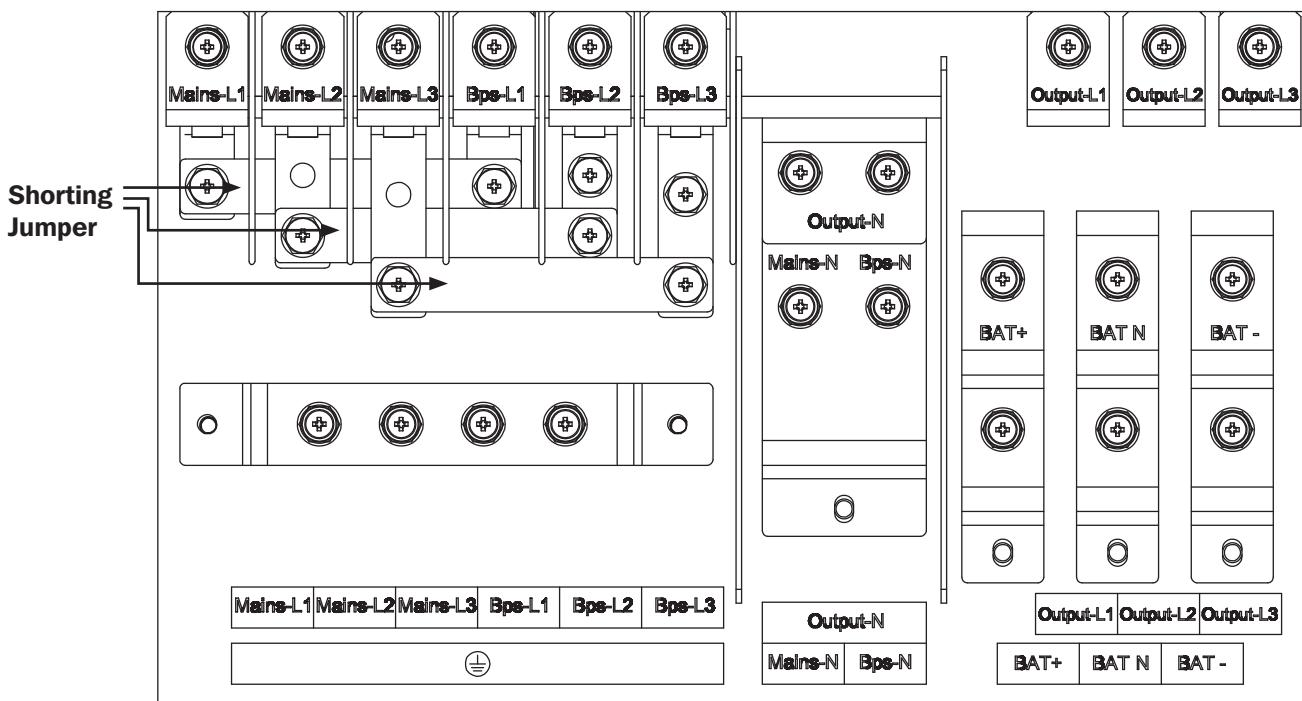

Figure 3-11: Single Input Connection, Models S3M50K and S3M60K
**Note:** The UPS unit is defaulted to single input mode, as shown in Figure 3-11. Remove the shorting jumpers to use in dual input mode.